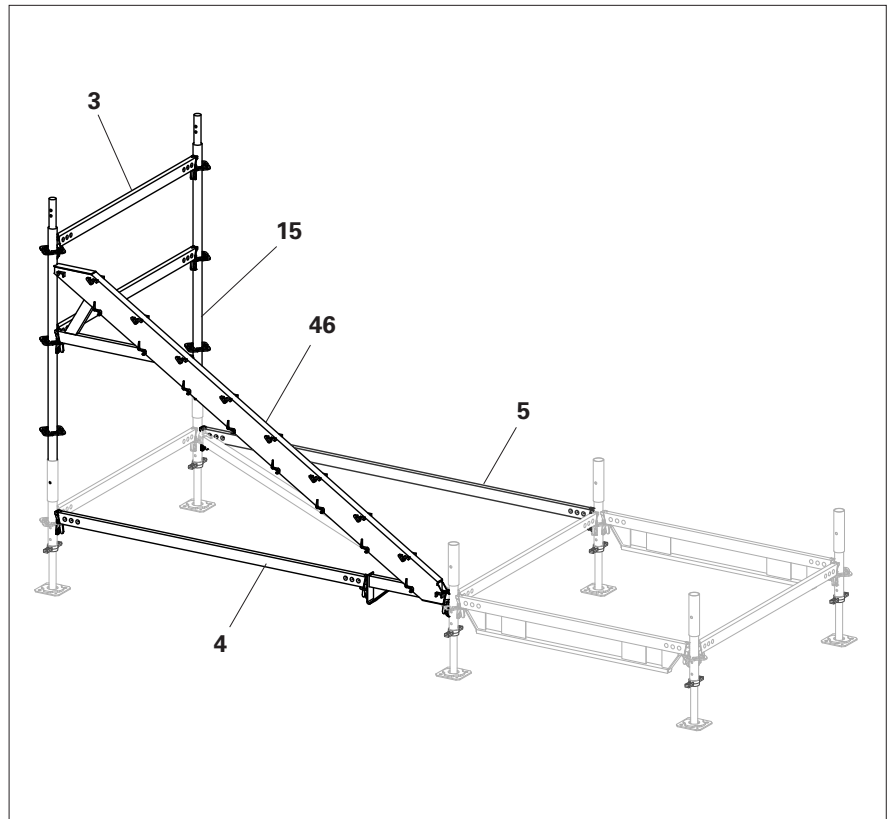

Fig. B1.02
5. Remove the Horizontal Ledger UH-2 250 (**5**) used as an assembly aid. (Fig. B1.02)